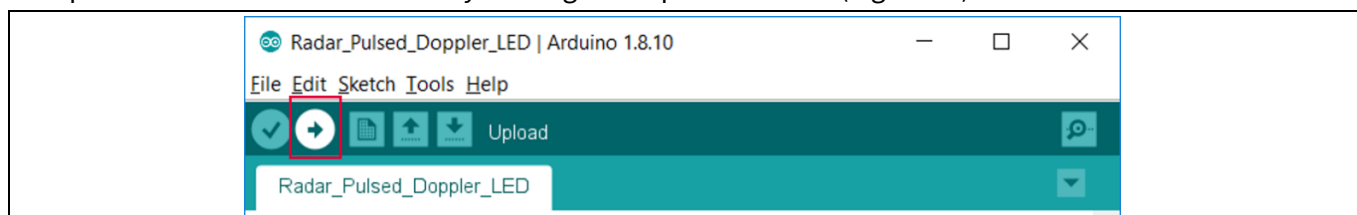

Figure 22 Uploading code onto board
6. Upload the code onto the board by clicking the “Upload” button (Figure 22).